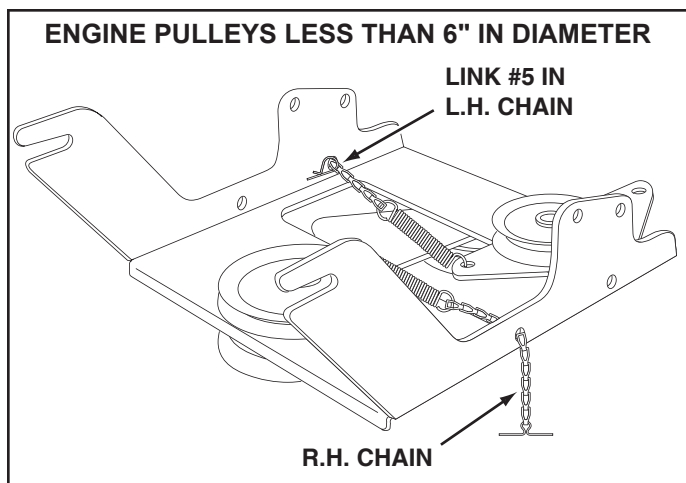

FIGURE 11
- Connect the end link of each chain to the springs shown in figure 11.